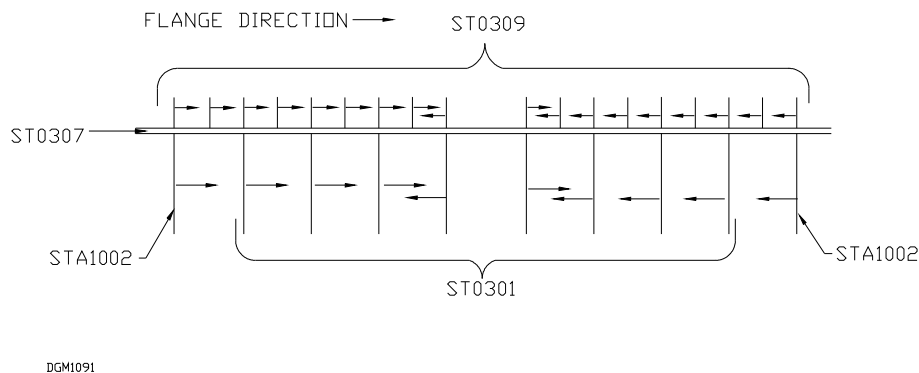

Figure 2.7.1
1. Cleco the eighteen Leading Edge Ribs (ST0309) and eight Main Ribs (ST0301) to the Main Spar. Use two Clecos on each. See Figure 2.7.1 for flange orientation and rib locations.